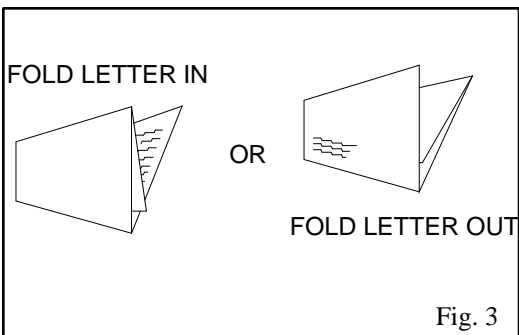

Fig. 3
3. To fold for a window envelope, insert paper with the top up and facing the operator. To fold for a business letter (writing facing in), insert paper top up and writing facing away from operator (see **Fig. 3**).